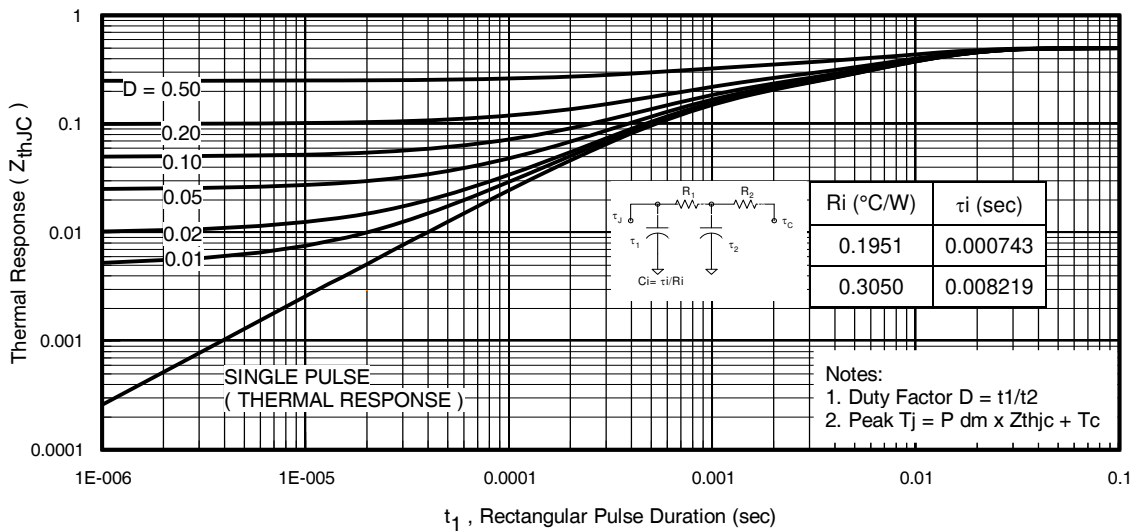
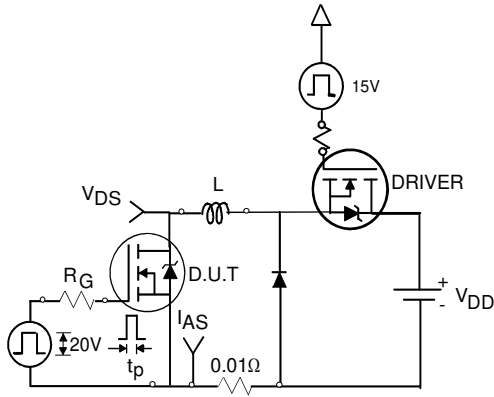

Fig 11. Maximum Effective Transient Thermal Impedance, Junction-to-Case
Fig 12a. Unclamped Inductive Test Circuit
- ① Calculated continuous current based on maximum allowable junction temperature. Package limitation current is 240A. Note that current limitations arising from heating of the device leads may occur with some lead mounting arrangements. (Refer to AN-1140)
- ② Repetitive rating; pulse width limited by max. junction temperature. (See fig. 11).
- ③ Limited by T_{Jmax}, starting T_J = 25°C, L = 0.049mH, R_G = 25Ω, I_{AS} = 160A, V_{GS} = 10V. Part not recommended for use above this value.
- ④ Pulse width ≤ 1.0ms; duty cycle ≤ 2%.
- ⑤ C_{oss eff.} is a fixed capacitance that gives the same charging time as C_{oss} while V_{DS} is rising from 0 to 80% V_{DSS}.
- ⑥ Limited by T_{Jmax}, see Fig.12a, 12b, 15, 16 for typical repetitive avalanche performance.
- ⑦ This value determined from sample failure population, starting T_J = 25°C, L = 0.049mH, R_G = 25Ω, I_{AS} = 160A, V_{GS} = 10V.
- ⑧ This is applied to D2Pak, when mounted on 1" square PCB (FR-4 or G-10 Material). For recommended footprint and soldering techniques refer to application note # AN-994.
- ⑨ R_θ is measured at T_J of approximately 90°C.
3. Equation below based on circuit and waveforms shown in Figures 12a, 12b.
$Z_{thJC}(D, t_{av})$ = Transient thermal resistance, see Figures 11)